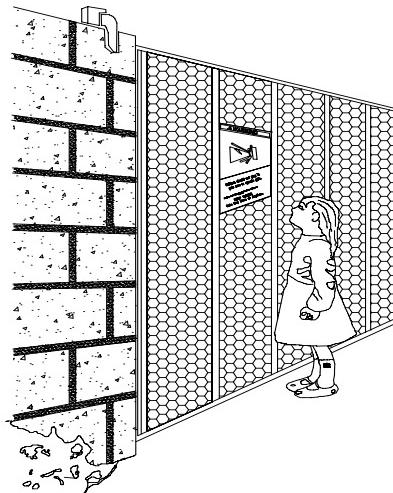

Figure 2
- For ORNAMENTAL "GRILL TYPE" GATES (or any other type of open gate where a handhold or toehold may be achieved), injuries may occur when people put arms through the openings or children "ride" the gate by standing on the bars and holding on to the gate. THIS POTENTIAL HAZARD CAN BE MINIMIZED BY INSTALLING A MESH SCREEN ON THE GATE. Allstar strongly recommends the entire gate and adjacent fence area the gate covers when open be meshed or guarded such that a handhold or toehold cannot be achieved. At a minimum all openings on a horizontal slide gate must be guarded or screened from the bottom of the gate to a minimum of 4 feet above the ground to prevent a 2-1/4 inch (57.15 mm) sphere from passing through the openings anywhere in the gate, and in that portion of the fence the gate covers when in the open position. See Figure 2.